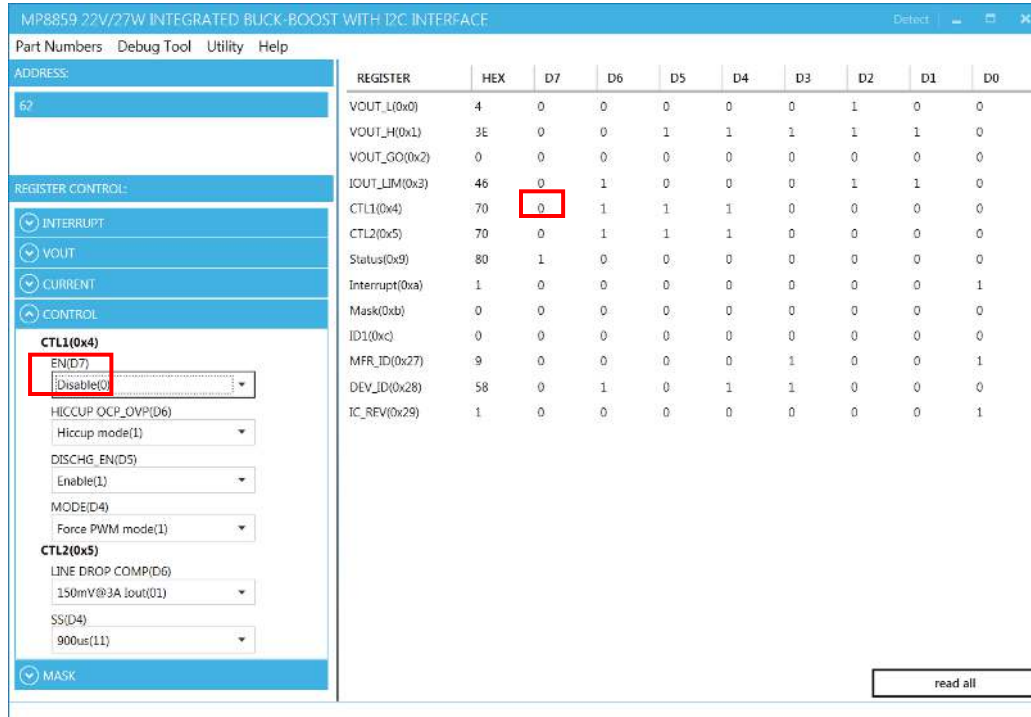

Figure 11: Refer to Datasheet to Translate 0’s and 1’s
5. Click the “Read All” button to update values. The changed information of the item will appear on the right side (see Figure 11).